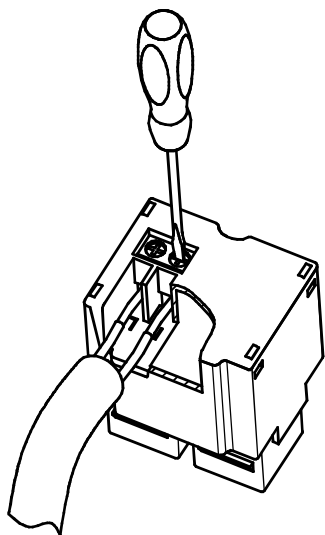

Fig. 2
1. Remove the glass panel (1) with the label applying a knife or a flat screwdriver in the recess (3).
2. Unscrew the screw (2) and pull out the adapter (3) together with the USB charger module (4). If necessary, you can detach the USB charger module (4) from the adapter (3) by simultaneously pressing the two movable clips on the USB charger module (4).
3. Dismantle the USB charger modules (4).
4. Remove the spacer frame (5) from the assembly block (7). Pull away the block tabs or pull the frame tightly to do this.
5. Set the assembly block in the box (9) with tabs or screws at the box (8).
6. Connect the power cable to the terminal block of the USB charger module (see figure 2), respectively the phase wire under the "L" terminal, the neutral wire under the "N" terminal.
7. Insert the intermediate with the USB charger module (4) into the intermediate frame (5) and screw it onto the mounting block (7) with the screw (2).
The connection to the installation should be done as shown in Figure 2. With improper connection, the charger may be damaged or may work incorrectly.